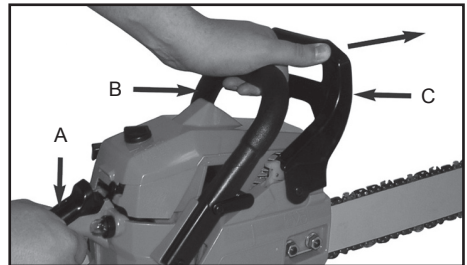

Fig. 25
3. Grasp the rear handle (Fig.25-A) with your right hand.
4. With your left hand, hold the front handle (Fig 25-B) [not chain brake lever (Fig.25-C)] firmly.
5. Squeeze the throttle trigger to 1/3 throttle, then immediately activate the chain brake lever (Fig.25-C).